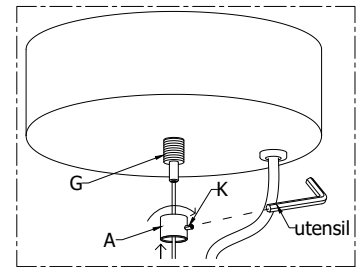

Fig. 3
- Place the canopy in the ceiling. Screw with care the particular (A), the block cable (G).(Fig.3)
- Screw the safety screw (K).(Fig.3)